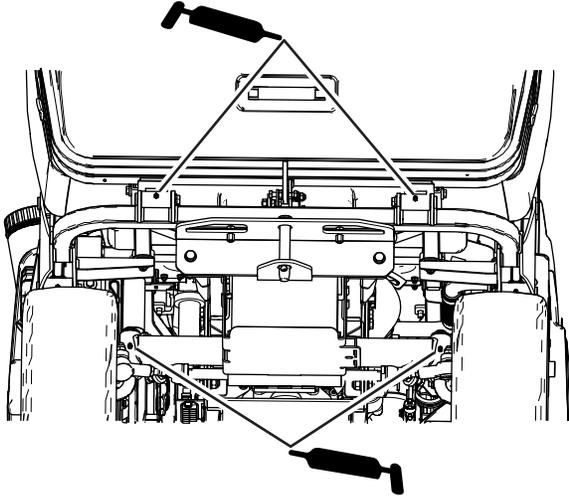

Figure 45
- Hopper pivots and steering pivot points (Figure 45)